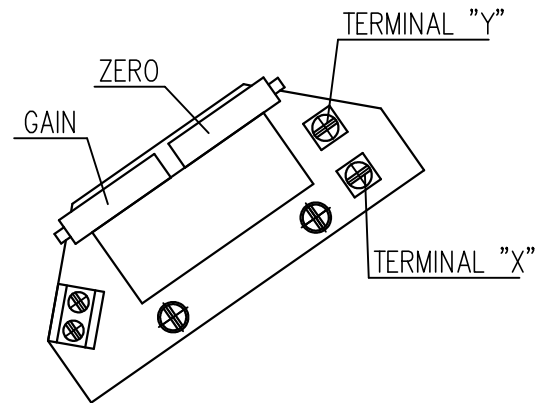

Fig.5
4.4.1 EPV – the 2-wire version (Fig. 5)
- Adjust the resistive transmitter according to the previous chapter. The resistance is to be metered on the terminals X-Y (Fig. 5). The used transmitter resistance is 100 Ω .
- Turn the adjusting trimmer ZERO (Fig. 5) to adjust the output current signal rate measured on the terminals 81-82 to 4mA.
- Turn the adjusting trimmer GAIN (Fig. 5) to adjust the output current signal rate measured on the terminals 81-82 to 20mA.